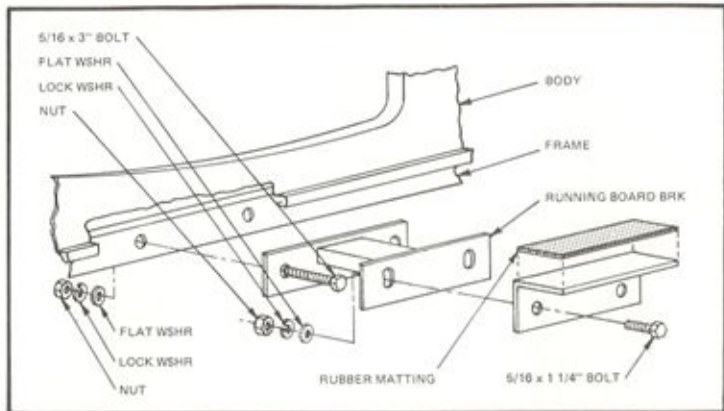

Figure 57
- Center running board bracket against main frame rail under running board. Position it until it just contacts running board. Mark hole locations and drill 2 holes, 3/8", through frame rail. Attach bracket extension to bracket using 2 bolts, 5/16 x 1 1/4" with flat washer, lock washer and nut. Finger tighten. Glue a piece of rubber matting to the top of the extension to prevent squeaks. Bolt bracket to frame using 5/16 x 3" bolts with flat washer, lock washer and nut. Final adjustments will be made later. (Figure 57)